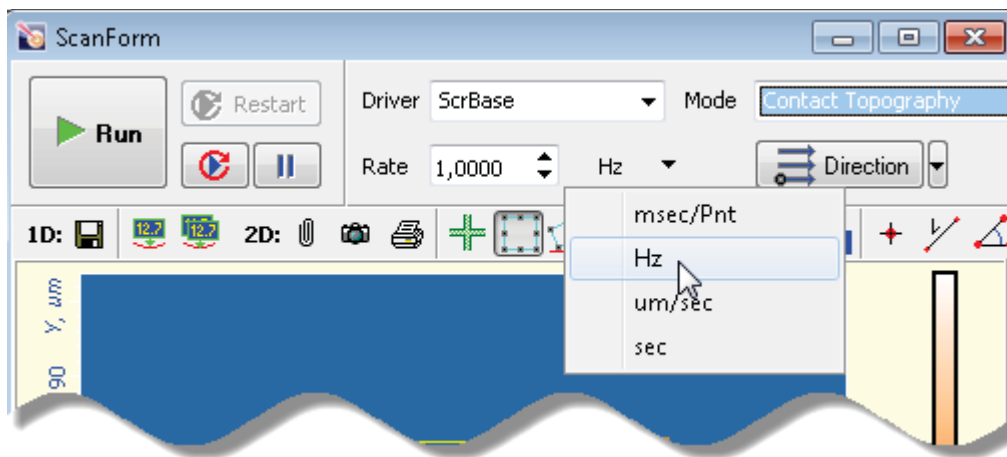

Fig. 7-15
1. In the Control panel of the **ScanForm** window, select unit of scan rate measurement (Fig. 7-15). For example, the **Hz** item is associated with the line scan frequency in Hz.